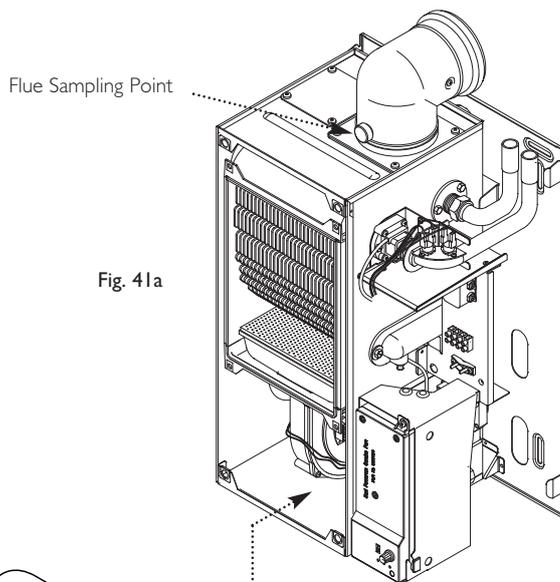

Fig. 41a
11. Check CO/CO2 ratio and CO2 level at the flue sampling point (Fig.41a) as is quoted in Section 4.0 Technical Data.
11. Check CO/CO2 ratio and CO2 level at the flue sampling point (Fig.41a) is as quoted in Section 4.0 Technical Data.